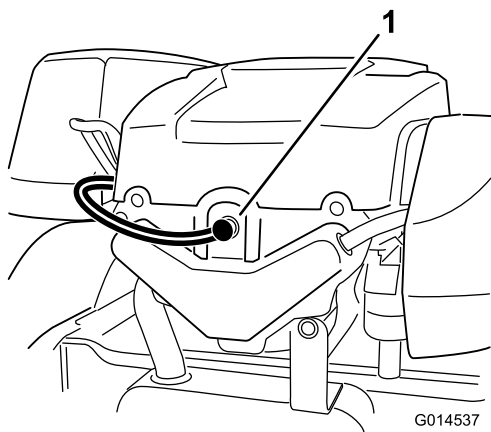

Figure 34
2. Pull the wire off of the spark plug (Figure 34). Clean around the spark plug to prevent dirt from falling into the engine and potentially causing damage.
3. Push the wire onto the spark plug (Figure 34).